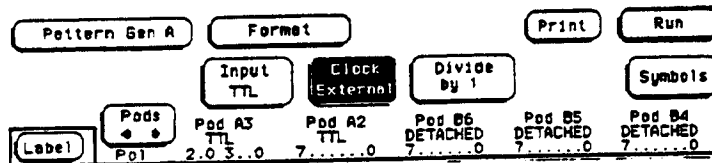

Figure 3-17. Clock Field
- f. Touch Clock field and set to External as shown in figure 3-17.